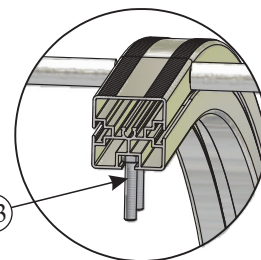
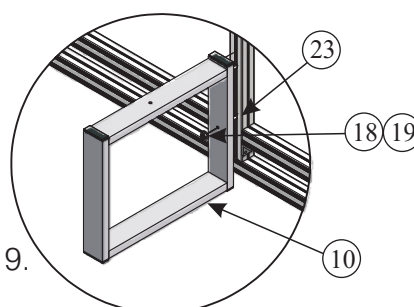

Figure 8.
Figure 9.
5.) The shelter now needs to be tilted into the upright position (Figure 8) and placed into the sockets. The safest way to do this is to have one person support each sideframe whilst another supports the bent supports. Now the main structure is assembled the seat support frames (10) need to be fixed to the bent supports (3). This is done by sliding 2 x M8\*40mm bolts (23) into the bolt track of the bent supports and fixing the frames to the supports. Line up the bolts with the holes in the support frame then fit BOL715 (19) and BOL402 (18) (Figure 9). Put these on finger tight at first until the seats are positioned correctly as this will allow some movement needed to fix the seats.